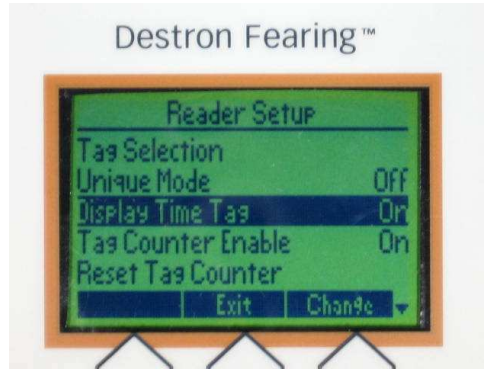

FIG. 65: Reader Setup Screen: Display Time Tag ON
1. Press the UP/DOWN Arrow Keys on the Reader Setup Screen and highlight the "Display Time Tag" line. See Fig. 65.
2. Press the CHANGE Key to turn the Display Time Tag ON or OFF. See Fig. 65 - 66.